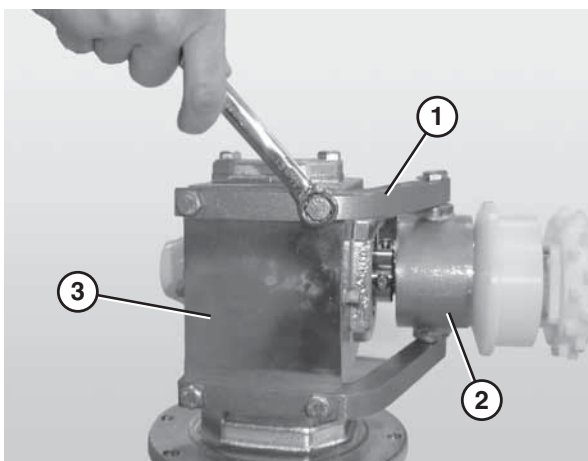

Figure 14
3. Attach the gear reducer mounting bars (**Figure 14, item 1**) to the gear reducer mounting bracket (**Figure 14, item 2**).
4. Attach the gearmotor assembly (**Figure 14, item 3**) to the gear reducer mounting bars (**Figure 14, item 1**).